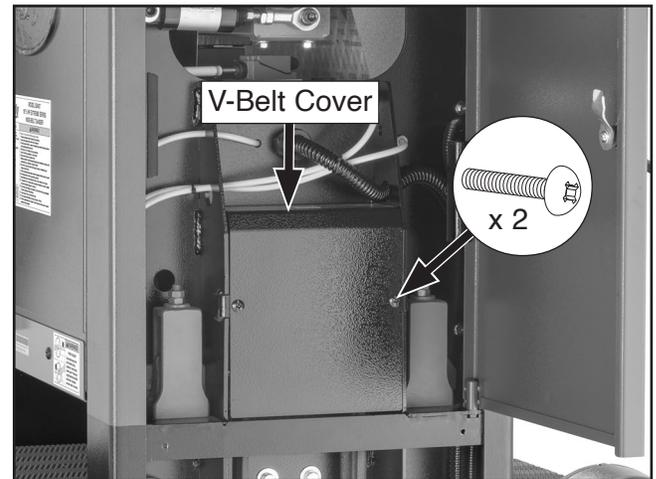

Figure 70. Location of V-belt cover and screws.
4. Open right door, then remove (2) Phillips head screws shown in **Figure 70** to remove V-belt cover.